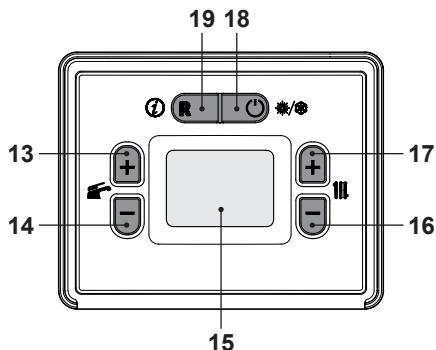
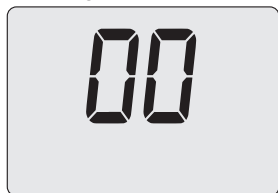

Fig. 9.3
Fig. 9.5
- By using keys 16 or 17 (Fig. 9.3) it is possible to modify the value of parameter A01 (Fig. 9.5).
- Press 13 or 14 (Fig. 9.3) to confirm the value entered and return to the list of parameters (Fig. 9.4).
- Press the 18 button (Fig. 9.3) to exit "programming mode".